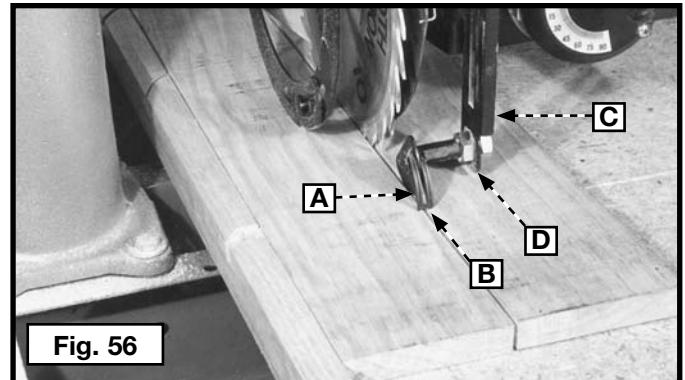

Fig. 56
During ripping operations, the splitter (A) Fig. 56 must ride in the saw kerf and the anti-kickback fingers (B) should touch the workpiece to prevent kickback.
2. Start a piece of material through the saw (Fig. 56).
4. Adjust the arm (C) Fig. 56 so that it is vertical and the splitter (A) is in the saw kerf.
5. If the splitter (A) Fig. 56 does not align with the saw kerf, loosen the hex nuts (D), and position the splitter (A) into the saw kerf. Tighten the hex nuts (D) against the arm (C). The straight side of the splitter should be toward the blade (Fig. 56), and the anti-kickback fingers should rest on the workpiece.
**NOTE:** The clamp knob for arm (C) must be tight. Move arm (C) front to back while tightening clamp knob with other hand to be sure clamp is firmly seated and tight.
6. Pull backward on the workpiece to determine if the anti-kickback fingers bite into the material and prevent further backward movement. If necessary, readjust the height of the arm (C) Fig. 56.